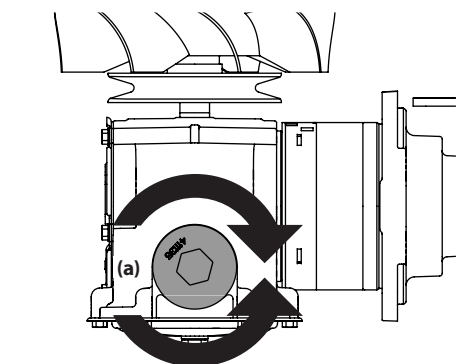

Figure 4-10
- Place a suitable container under the drain plug (a) on the transmission. Remove the drain plug (a) and allow the transmission oil to drain. See Figure 4-10.